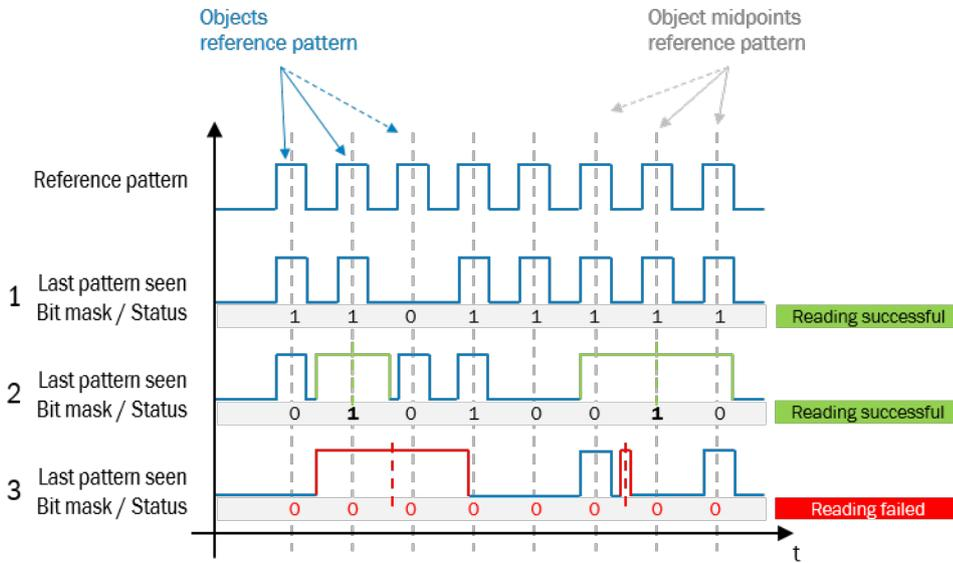

Figure 15: Midpoint evaluation (Direct object detection) signal schema
- figure 15 Shows an example of how read-in signals are evaluated regarding the reference pattern in **Midpoint** evaluation mode: